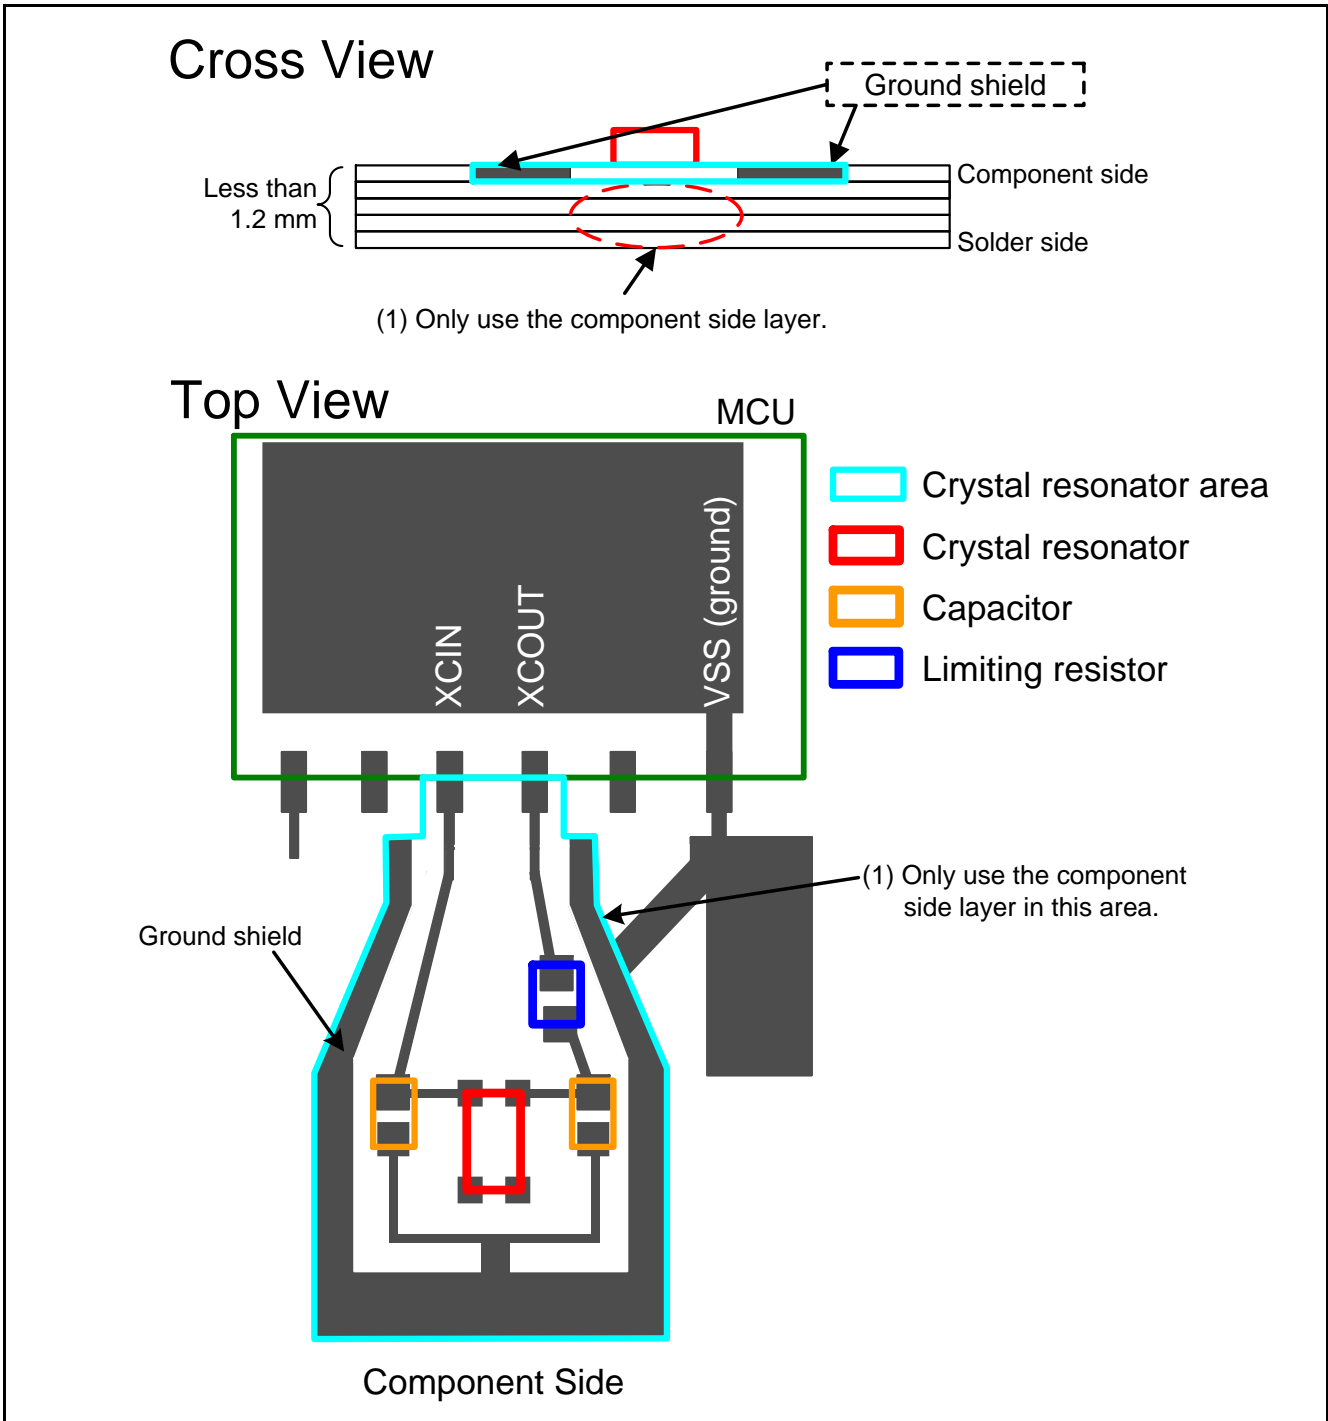

Figure 1.11 Trace Example When a Multilayered Board is Less Than 1.2 mm Thick in the 100-pin, 144-pin, and 176-pin LQFP Packages
(1) describes points when making a multilayered board that is less than 1.2 mm thick, and Figure 1.11 shows a trace example.